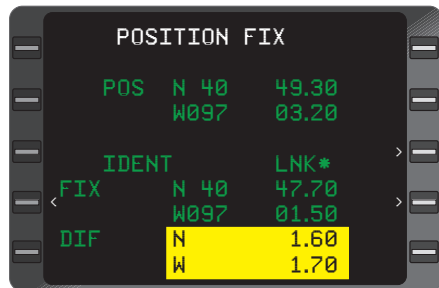

Figure 3-182
9. **ENT** Key - DEPRESS. The **DIF** display shows the direction and distance in degrees, minutes, and hundredths of minutes from the **FIX** position to the composite position. (Figure 3-182)